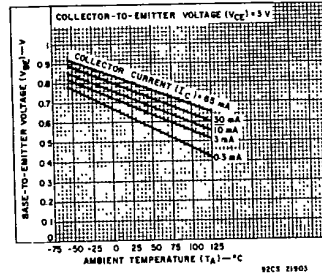

Fig. 3 - Base-to-emitter voltage vs. ambient temperature for n-p-n transistors Q3 & Q5.
**1. Composite p-n-p/n-p-n Transistors Q3, Q4 (See Fig. 3)**